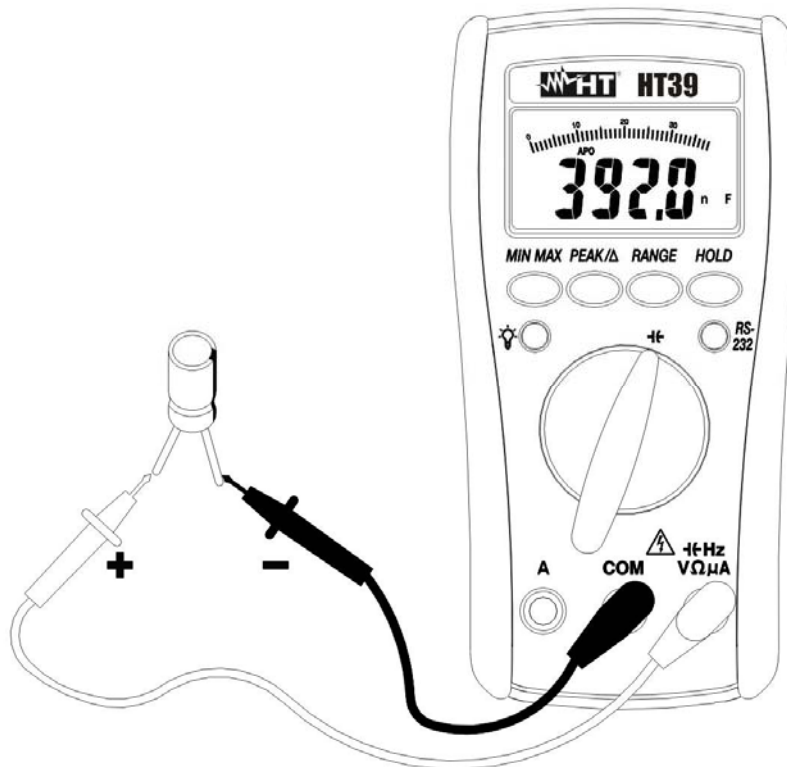

Fig. 10: Capacitance measurement
2. Insert the test leads into the jacks, the red plug into \rightarrow HzVΩμA jack and the black plug into **COM** jack (Fig. 10).